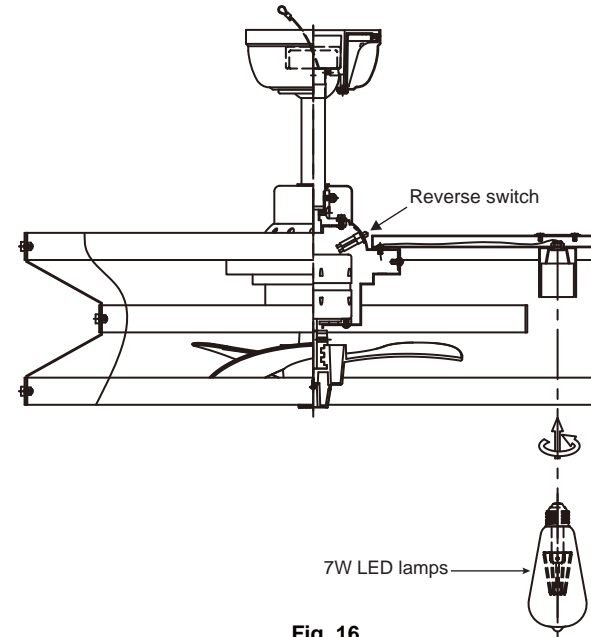

**Fig. 15**
Step 2. Slide the canopy up to the mounting bracket and place one of the key hole slots over the mounting screw on the mounting bracket. Rotate the canopy until the screw head locks in place at the narrow section of the key hole. See figure 15.
**NOTE:** Adjust the canopy screws as necessary until the canopy and canopy cover are snug. (Fig. 15)